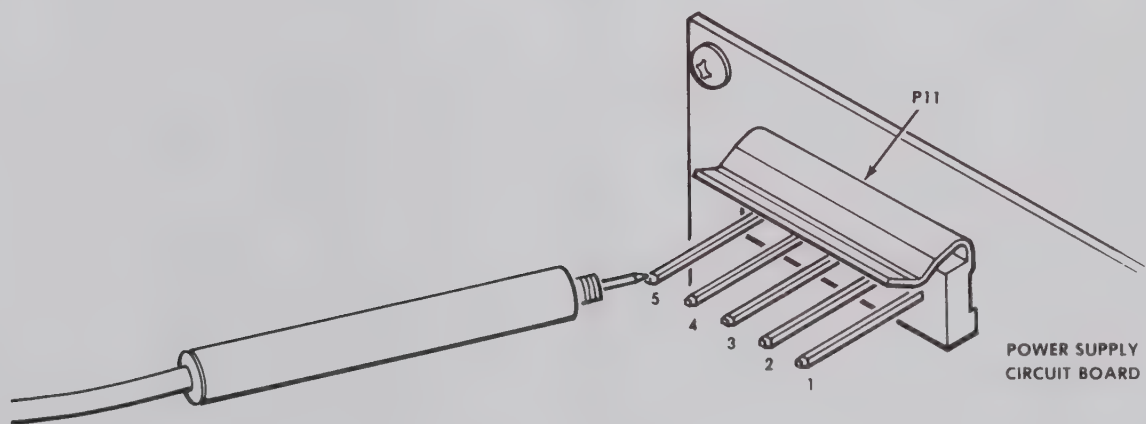

Figure 2.9-9 Connector J11 Test Points (No Load)
(2) Repeat the three tests above, applying the probe directly to the corresponding pin of P11, first pin #4, then pin #3, and finally pin #2 (Figure 2.9-9).
(3) Make a note of any multimeter reading that does not conform to the specification.